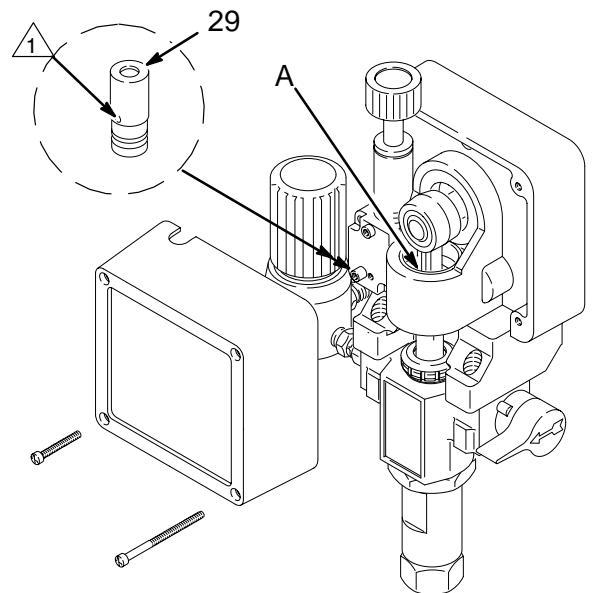

Fig. 10
3. **Periodically clean paint residue from the pressure transducer (29) vent hole area.** See Fig. 10. Replace the transducer when leakage is excessive. See page 26.
4. **Lubricate the bearing housing** after every 100 hours of operation. Remove the front cover. Fill the bearing housing cavity (A) with SAE 10 non-detergent oil. See Fig. 10.